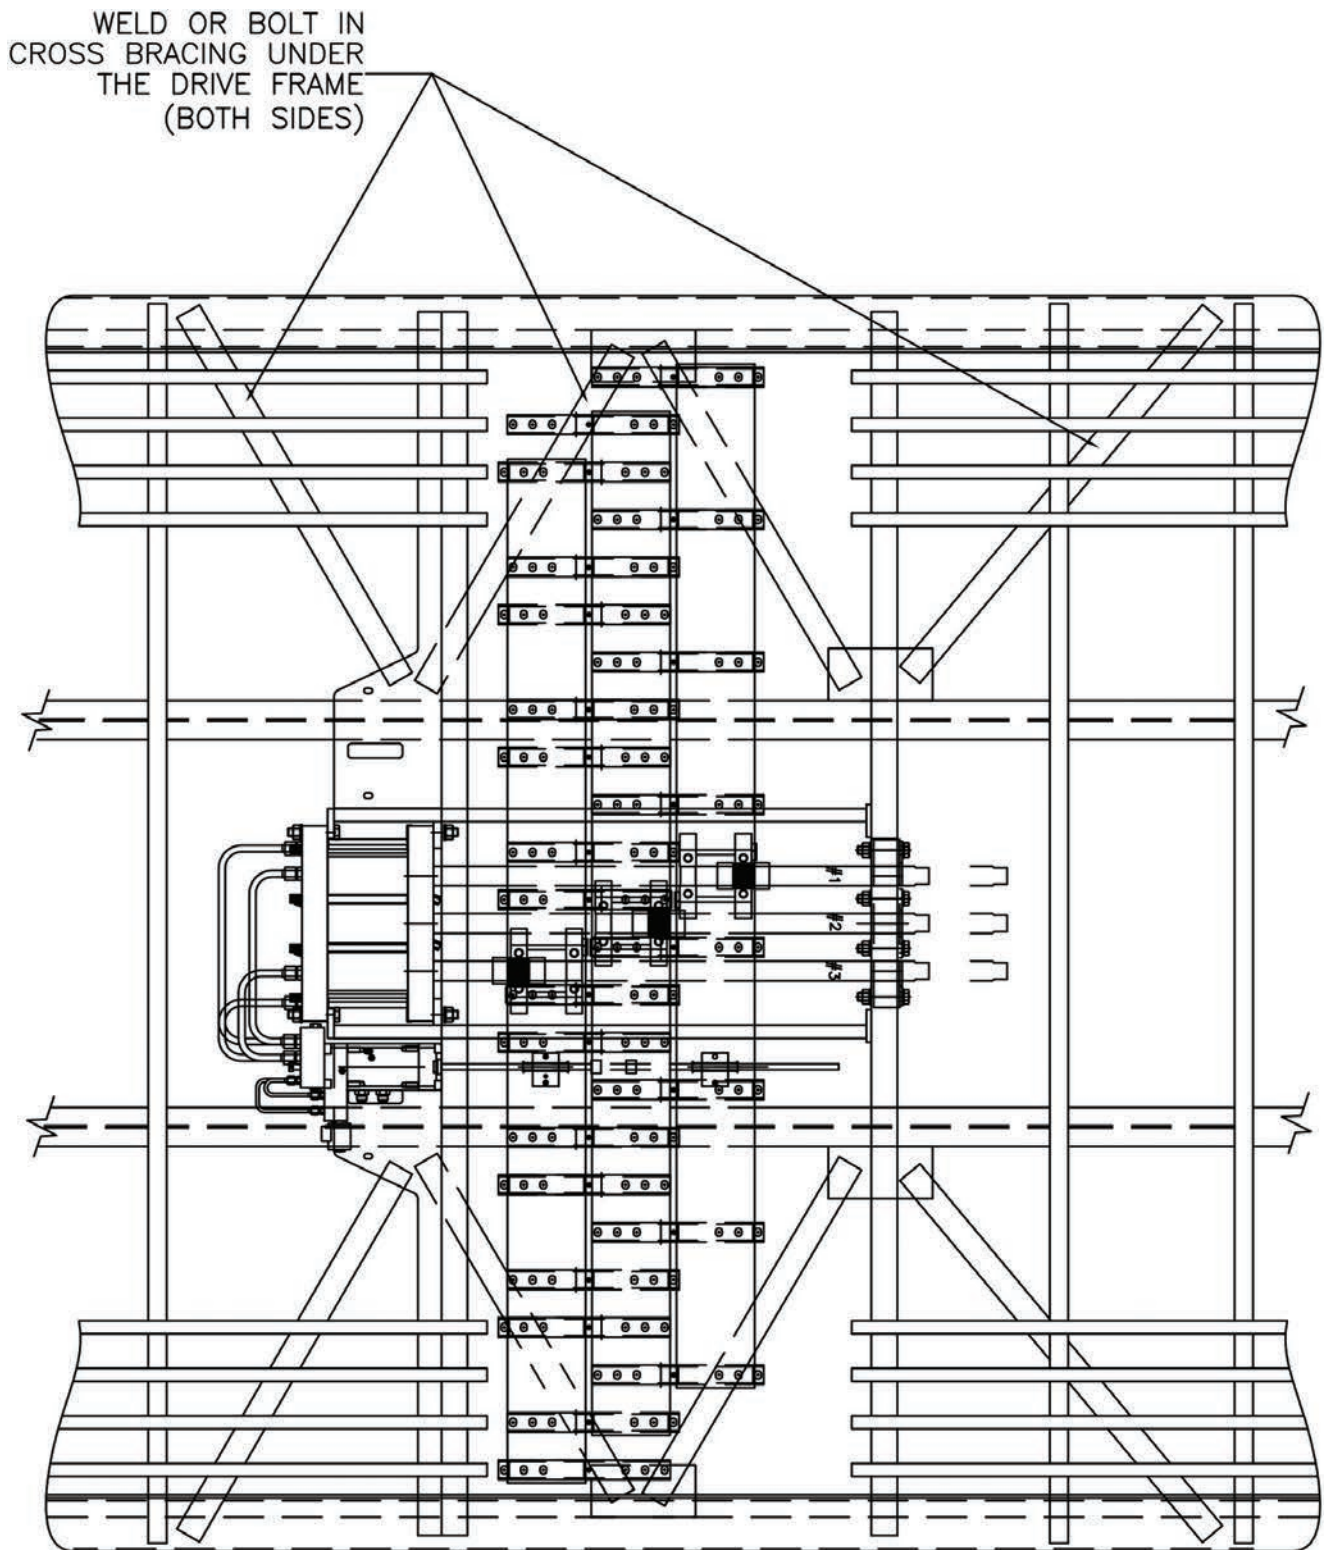

Figure 25
- 4) Weld or bolt cross bracing to side rails (Figure 25). Note that it is easier to install the flooring if the cross bracing is installed after the flooring. Keep in mind that the paint will have to be touched up afterward if this option is chosen.